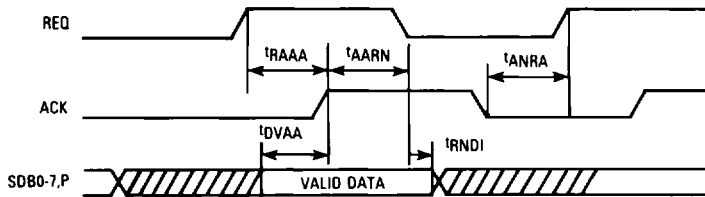

Figure 13. HDC SCSI Receive Timing Diagram
**HOST INTERFACE TRANSFER TIMING** (see Figures 13 and 14)